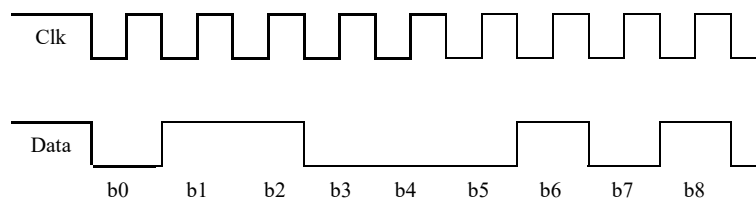

Figure 1 – Synchronous Data
- Synchronous transfer does not transfer extra bits. However, it requires clock signal as shown in Figure 1